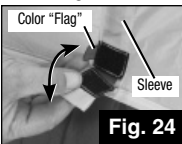

Fig. 24
**NOTE:** Carefully unroll metal "springs" stored in bag with stakes. The color marking on each "spring" should match the color of the fabric "flag" sewn to the window or door sleeve opening. (Fig. 24)
1. Locate sleeve(s) in window panel, open hook & loop fastener; then insert "spring(s)" with matching color marking. (Fig. 24 & 25)